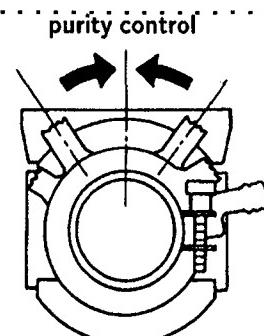

Fig. 2
- Loosen the deflection yoke mounting screw, and set the purity control to the center as shown in Fig.2.